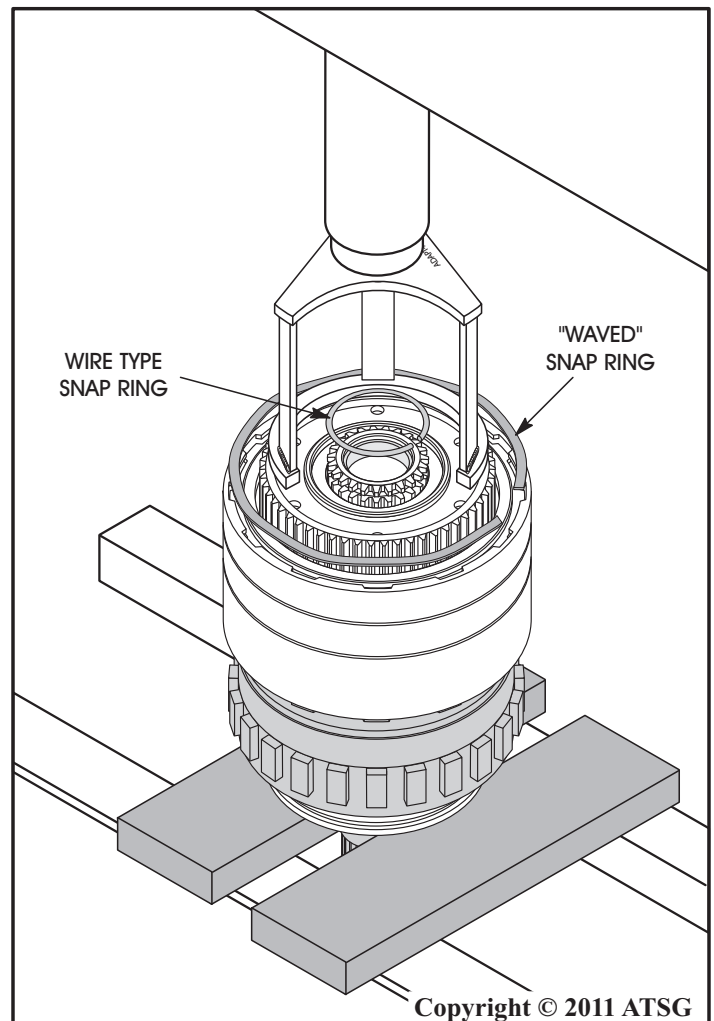

Figure 156
20. Apply pressure slowly, compressing the hub and just far enough to expose clutch hub retaining snap ring and overdrive direct clutch pack snap ring, as shown in Figure 156.
21. Remove overdrive direct clutch "wave" snap ring and clutch hub "wire type" snap ring, as shown in Figure 156.